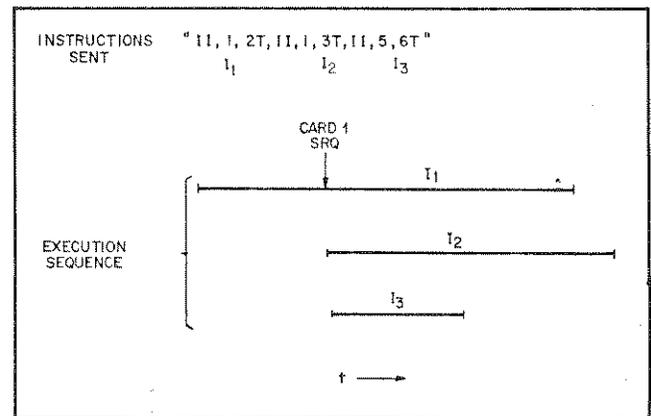

Figure 5-27. Same Card Restriction in Interrupt Instructions
2. Because it doesn't make sense to have a single card executing in more than one instruction simultaneously, when an OI or II instruction is started, all the cards associated with the instruction are checked to see if they are busy with any other instructions (in the serial mode they could only be busy with other interrupt instructions). If any card is busy, the interrupt instruction must wait until the card completes before the instruction will start. In the serial mode, while the interrupt instruction waits, no later instruction can be started. Figure 5-27 illustrates two II instructions ( $I_1$  and  $I_2$ ) addressing card 1. Note that instruction  $I_2$  will not start until card 1 in  $I_1$  has completed. Since  $I_2$  hasn't started, no later instructions can start.